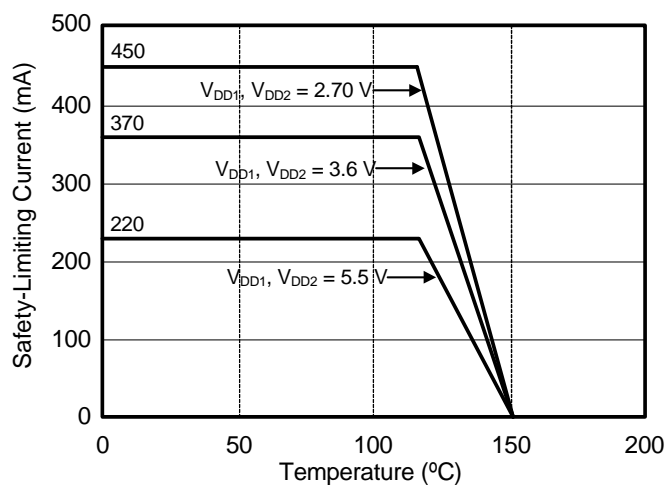

Figure 3. (WB SOIC-16) Thermal Derating Curve, Dependence of Safety Limiting Values with Case Temperature per DIN EN 60747-5-2
- Maximum value allowed in the event of a failure; also see the thermal derating curve in Figures 3 and 4.